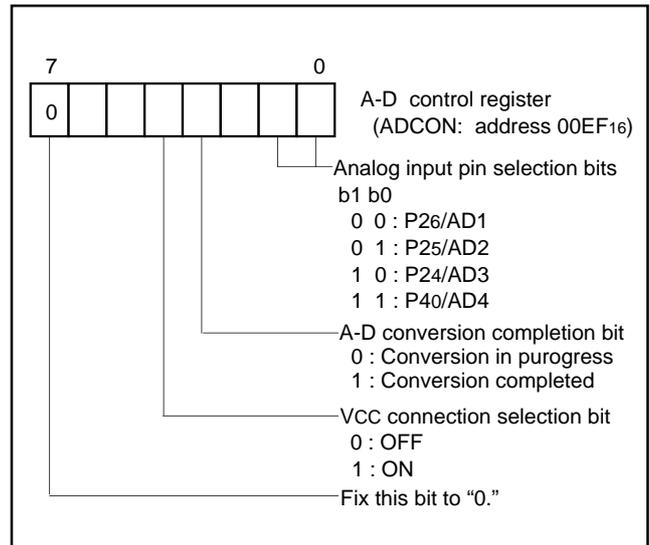

Fig. 18. Structure of A-D control register
**Note:** The analog input voltage "Vn" at which A-D conversion output data changes from "n" to "n + 1" (n ; 0 to 254) is as follows (refer to Figure 18).